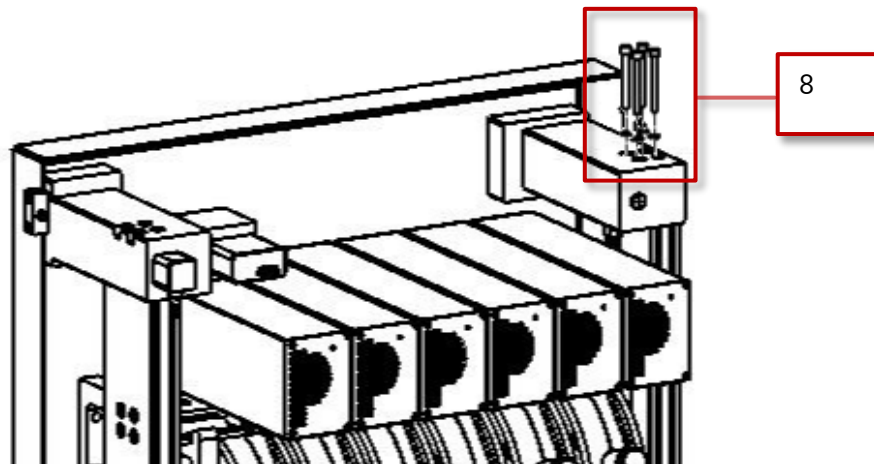

Figure 69 Remove screws to loosen the vertical connection bar
8. Remove the four screws on the front top water connection out, see Figure 69.